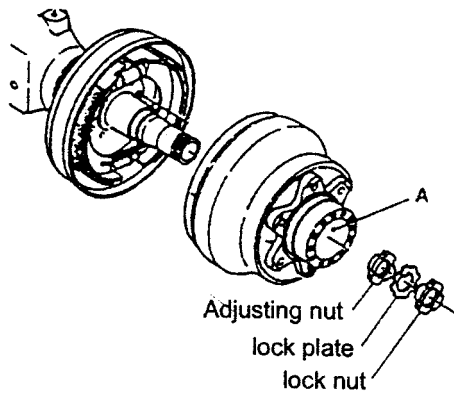

Fig3.2 Add grease
(1) Fill the chamber of wheel hub with lithium base grease about 100 cc, then fit the hub on the shaft. (Fig3.2)
(2) Screw down the adjusting nut with a torque for about 1kg.m and then loosen it for 1/2 turn.
(3) Put the spring balance up on the bolt to measure the hubs' starting torque. When the starting torque arrives to the specified value, lock the nuts slowly.